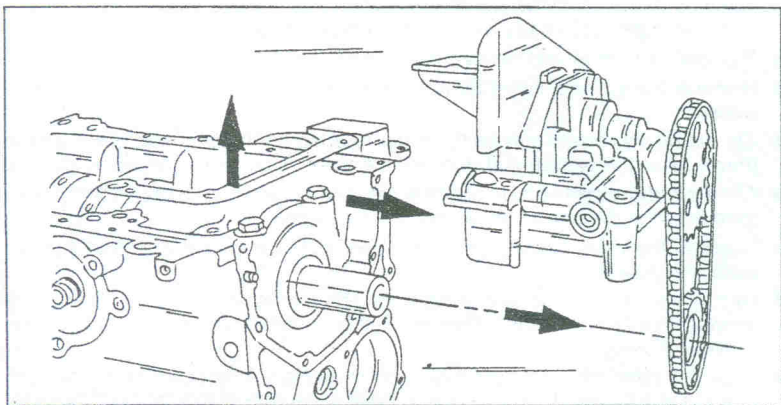

Fig. 1.13. — Removal of the oil pump together with the sprocket.
- Remove the three bolts securing the oil pump to the lower face of the cylinder block. Lift the oil pump and remove it towards the end, at the same time withdrawing the pump sprocket from the end of the crankshaft. Fig. 1.13 shows where the pump is fitted to the cylinder block.
- On the other side of the cylinder block fit the assembled oil pump. The drive chain and the sprocket must be in position as shown in Fig. 1.13. The three securing bolts are tightened to 1.3 kgm, but note that not all bolts are of the same length. Looking at the drive chain, fit the longest bolt (80 mm long) to the right-